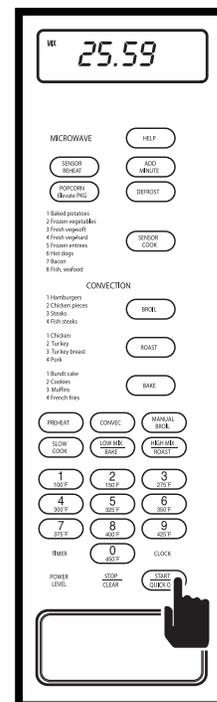

Figure 3-93.
5. Press the QUICK ON/START key. (See Figure 3-93)